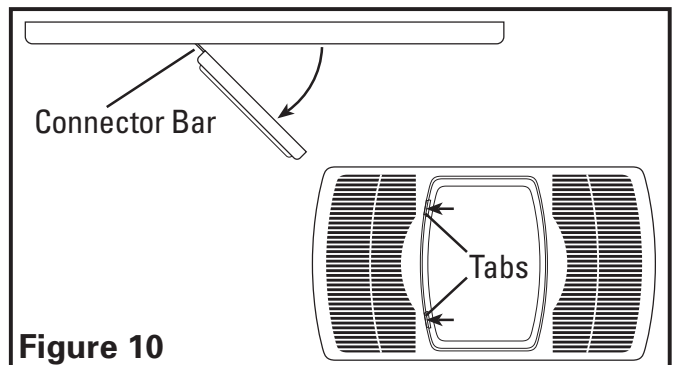

Figure 10
3. Remove grill from carton and open light lens area by pushing in on the two tabs of the light lens and pulling outward from lens. The lens will swing open on the connector bars. DO NOT remove the lens from the grill (Figure 10).